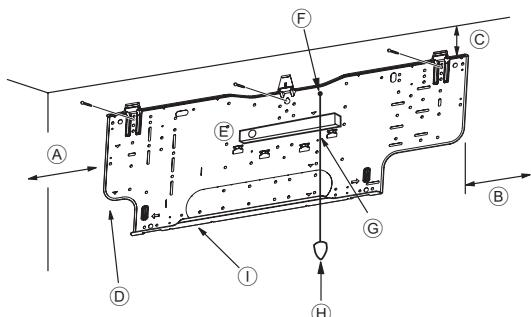
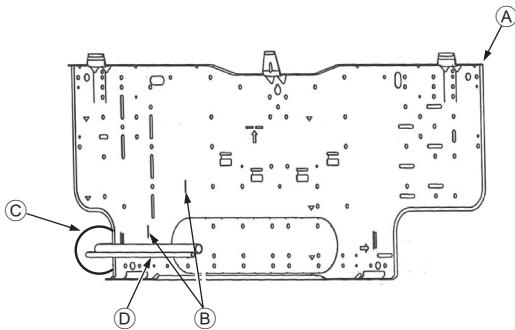

Fig. 3-4
Fig. 3-5
■ PKFY-P-NHMU-E2 (Fig. 3-4)
- Ⓓ Fixing screws (4 x 35 mm, 1-3/8 inch) ②
- Ⓘ Mount board ①
3.3. When embedding pipes into the wall (Fig. 3-5)
- Ⓐ Mount board ①